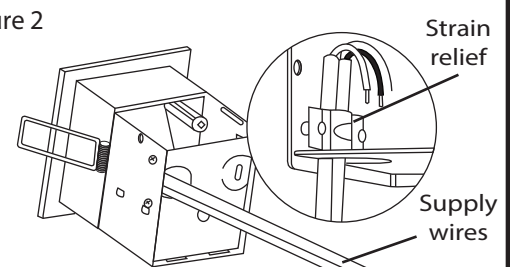

Figure 3
5. Make the connections inside of the housing by connecting black lead wire to black supply wire (hot), white lead wire to white supply wire (neutral) and bare copper to bare copper supply wire (ground). See Figure 3.